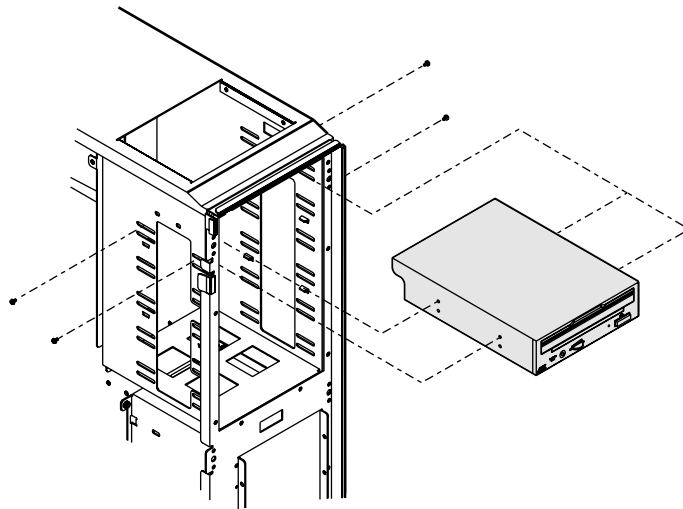

Figure 19: Installing a 5.25-inch Drive
5. If you are replacing an existing drive, remove the screws securing the drive to the chassis, then remove the drive from the chassis (see Figure 19).